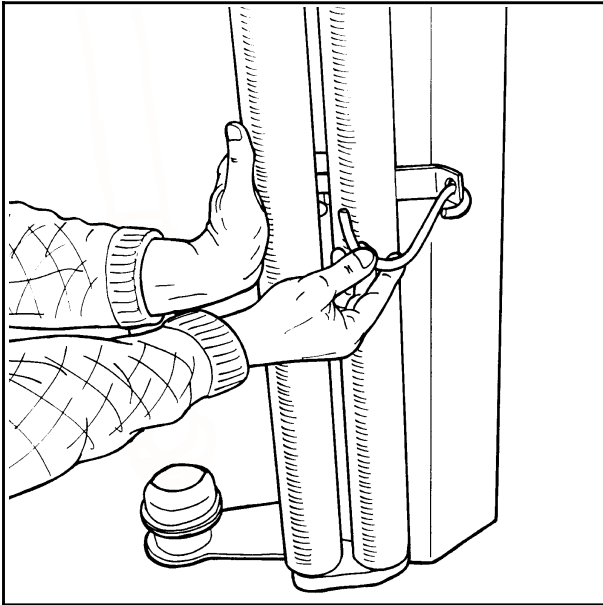

Fig. 4-1
- 4.1 When the plastic roll shall be mounted, you have to hold the pre-stretcher-rollers aside, Hold the rollers aside and put on the holding hook. (See fig. 4-1).